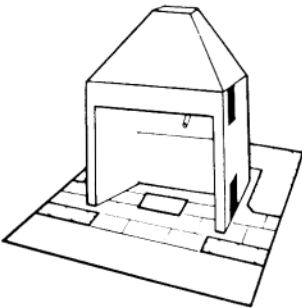

FIG. 2 Vestal Circulator Unit in position
Step 2 Position the Circulator on the firebrick hearth. Unpack glass wool insulation and apply around the bottom of the unit. Cover the unit with a single thickness of insulation, taking particular care at corners. A thin watery mixture of mortar brushed on the steel Circulator will help to hold the insulation in place. At this point if particular care is given to the glass wool insulation, location of the cold air intake grille, and gauging of the masonry work, the rest of the installation will be made much easier. (See Figure 2.)